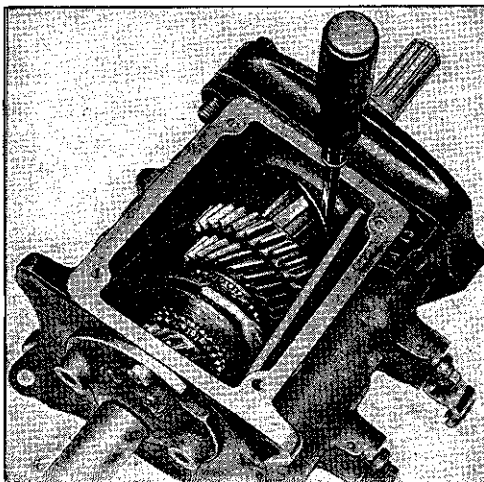

FIG. 219—REAR BEARING SNAP RING
**t.** Remove the snap ring (2) which holds the housing adapter to the transmission mainshaft bearing. Starting at the left side of the adapter where the snap ring boss is cut away, use a screw driver to work the ring free. See Fig. 219. Pull the adapter to the rear, separating it from the mainshaft bearing by tapping lightly on the rear of the mainshaft with a rawhide hammer.
**u.** Remove oil baffle (4) and gasket (6).
**v.** Remove the overdrive shift rail retractor spring (50) from the overdrive housing.
**w.** Remove nut (43) from the overdrive control shaft. Remove the control lever (44). Remove the